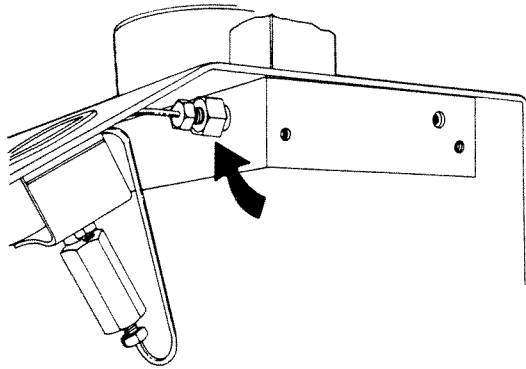

FIGURE 4-5 LINEAR ACTUATOR FILTER FITTING (RIGHT END COVER REMOVED)
3. The filter is located in a filter fitting in the chamber manifold, as shown in Figure 4-5. Disconnect the compression screw from the filter fitting with a 3/16" wrench.